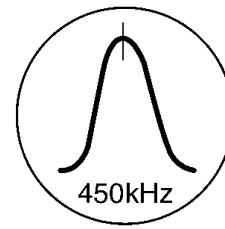

Fig.2
4. Adjust **Z102** so that the output frequency is maximized in Fig.2.